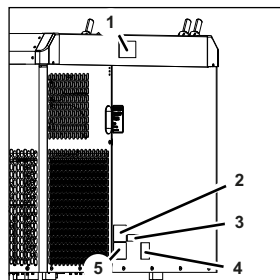

Fig. 12
- Fig. 12/1 Dangerous voltage warning sign
- Fig. 12/2 Unit type plate
- Fig. 12/3 Python connection warning sign
- Fig. 12/4 Refrigerant warning sign
- Fig. 12/5 Carbonator type plate